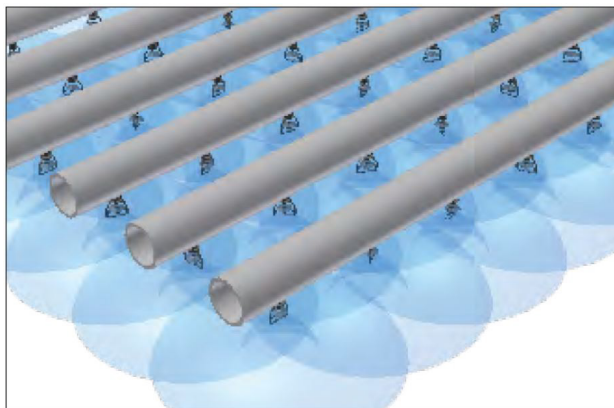

Figure 13. Nozzle Spray Pattern
- Start the recirculating pump. Make sure the fan motor is locked out and tagged out. Check to see if the nozzles are all spraying consistently and producing the spray pattern shown in **Figure 13**.